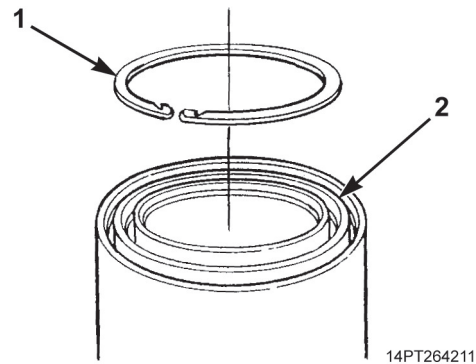

Figure 7. Retaining Ring Removal.
11. Remove retaining ring (Figure 7, Item 1) from sleeve (Figure 7, Item 2).